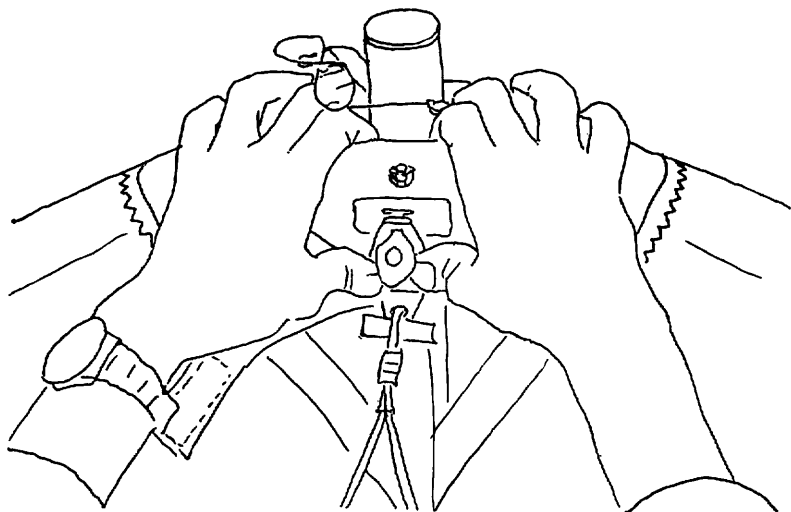

FIG 23
16) Attach the bottom front wires at the nose using the following procedure: First, be sure that the glider is sitting as level as possible, that neither wing tip is resting hard on the ground, and that the control bar base is pulled all the way forward so as to tension the bottom rear wires and put the rear of the keel on the ground. Lift the keyhole tang to the head of the bolt on the bottom of the keel. Press upward on the tang while pulling down on the nose of the glider (Fig 23), and the tang will slide over the bolt and pop into place. Note: Do not try to use the "T" handle on the tang for installing the tang, it is used only for removing the tang. Press instead on the tang itself on either side of the hole. Attach the rubber safety.